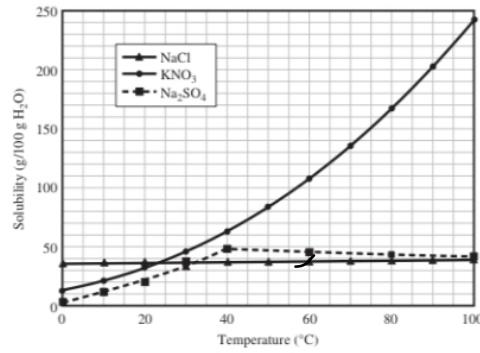

FIGURE 6.5-1 Solubilities of inorganic solutes.
1. Solid crystals of sodium chloride are slowly added to 1000 kg of water at 60°C . After each small addition, the mixture is stirred until the salt dissolves, and then more salt is added. How much salt can be dissolved if the temperature is maintained at 60°C ? What will happen if more than this quantity of salt is added? (Refer to Figure 6.5-1.)
5. Why is there a slope discontinuity at 40°C in the Na_2SO_4 solubility curve of Figure 6.5-1?